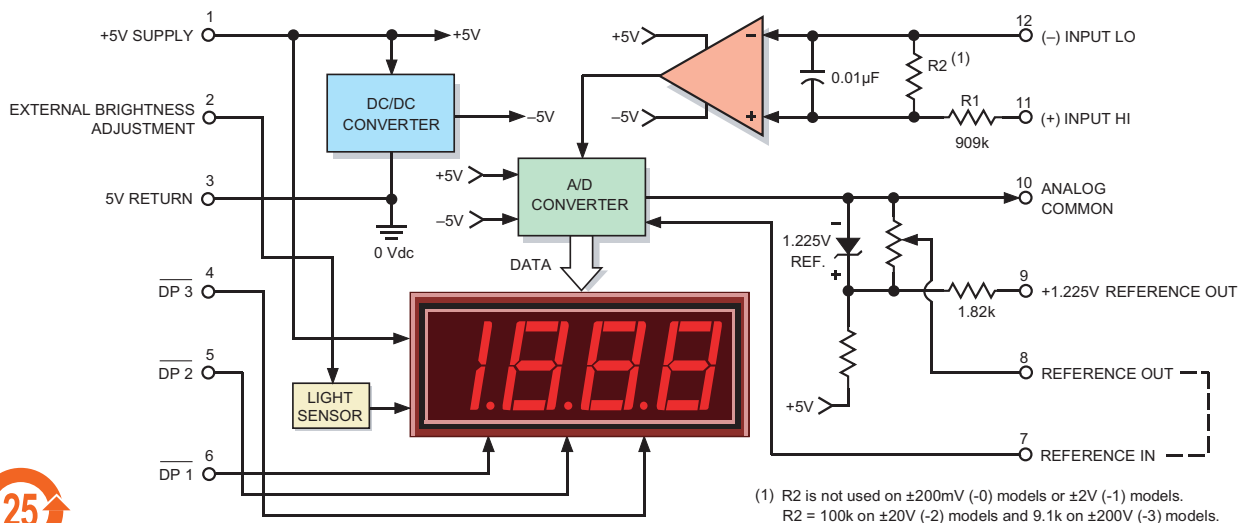

Figure 1. DMS-30DR Simplified Schematic
① Applies for transient or continuous overvoltages applied to (+) INPUT HI (pin 11) with (–) INPUT LO (pin 12) properly connected. Pin 12 is not overvoltage protected (see Figure 1). Voltages applied to pin 12 should not exceed the supply voltage.
② See Technical Notes.
The simplified schematic shown in Figure 1 can be very useful when debugging a malfunctioning panel meter circuit, particularly if the user has some knowledge of operational amplifiers (op amps). The meter’s high-impedance input consists of an op amp powered from a  $\pm 5V_{dc}$  power supply (the  $-5V$  is internally generated). Knowing this, one can easily see why input signals applied to (–) INPUT LO and (+) INPUT HI have to be kept within the power supply rails of  $\pm 5V$ . Also note that only pin 11 has a current-limiting 909k $\Omega$  series resistor. High input voltages that have a common ground with pin 3 (5V RETURN) should only be applied to pin 11 ((+) INPUT HI) and never to pin 12. In these high-voltage cases, pin 12 should always be tied to pin 3 (5V RETURN).